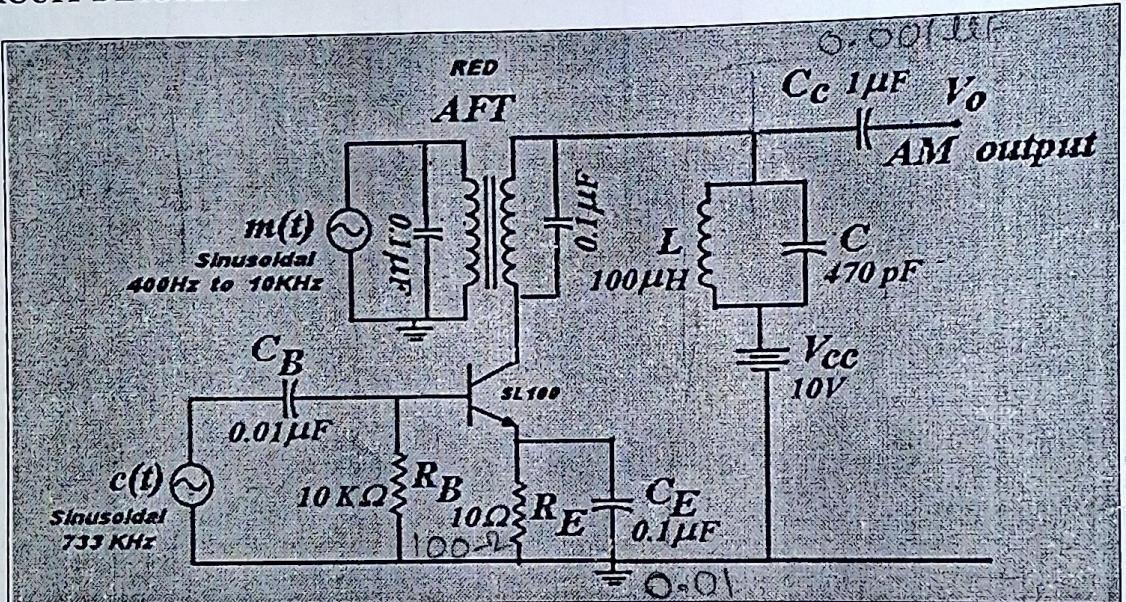

Fig 1: Transistor AM generator (Collector Modulator).
1. Make the connections shown in the circuit diagram.(Fig 1)